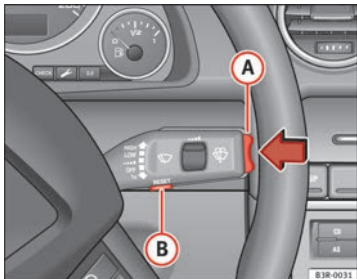

Fig. 63 Windscreen wiper lever: Reset button and rocker switch
Functions of the **Reset** (B) → fig. 63 and the **rocker switch** (A):